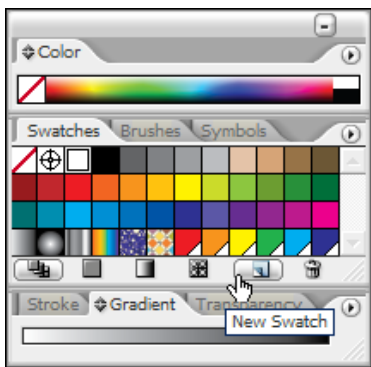

Figure 1—Swatch Palette
1. Open the **Swatches** palette (see Figure 1). If the Swatches palette is not visible, select **Swatches** from the Window menu.